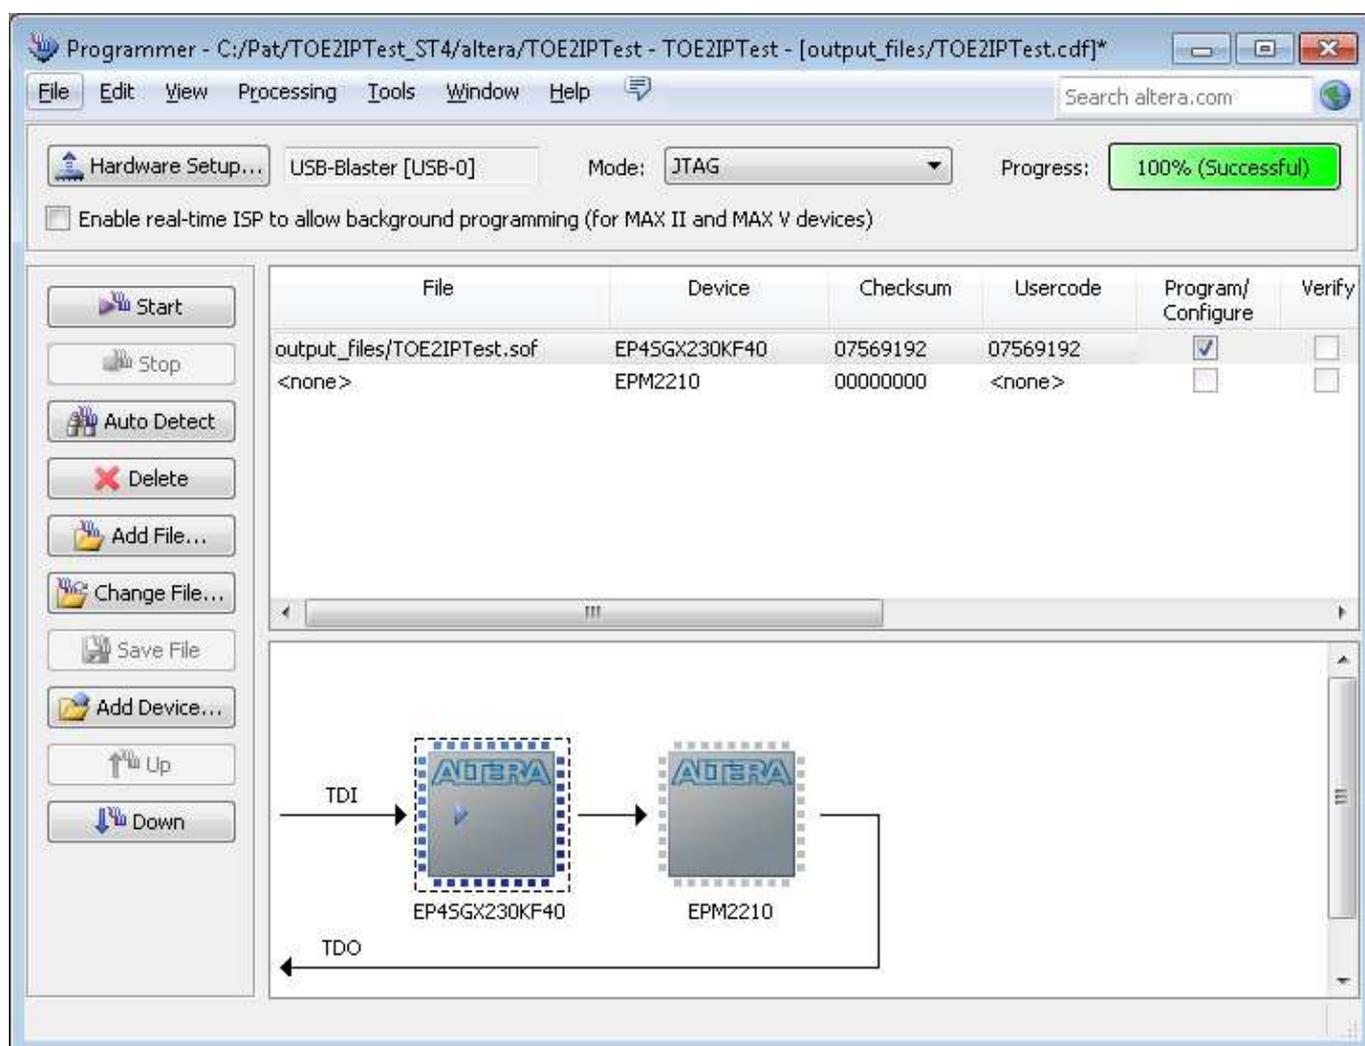

Figure 4-1 Programmer Environment
- Open QuartusII Programmer and download SOF to FPGA development board, as shown in Figure 4-1.